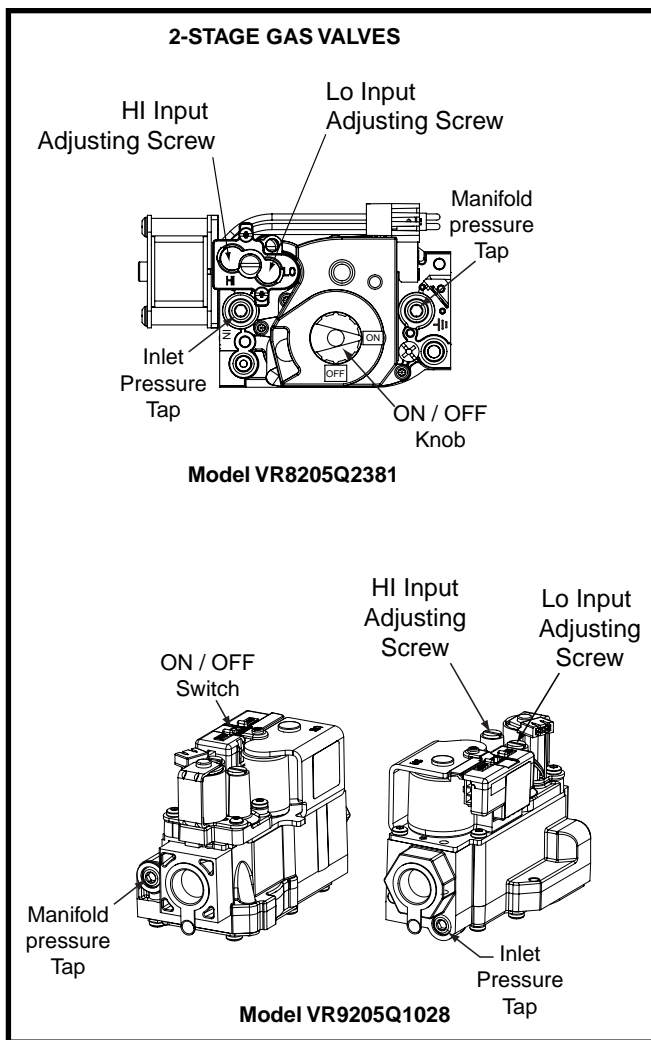

Figure 27. HI & LO Input Adjusting Screws
- c. Using an Allen wrench, turn the the LO Input Adjusting Screw on the LO side of the regulator to adjust the reduced input setting or turn the HI Input Adjusting Screw on the side of the regulator to adjust the full input setting. See Figure 27 (page 29). **NOTE:** Turning the adjusting screw clockwise increases the pressure and counterclockwise reduces the pressure.